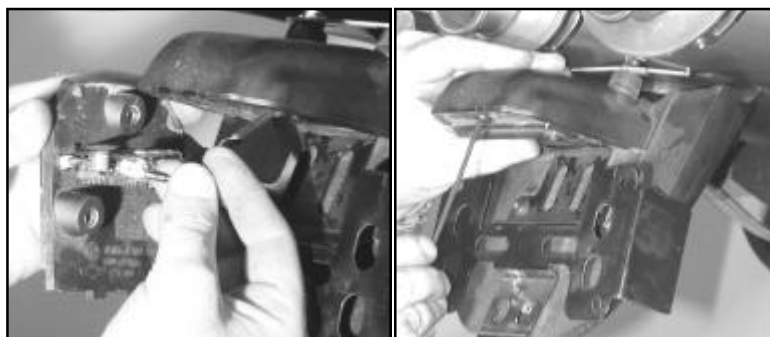

Figure 16
20. Reinstall the license light. Figure 16.